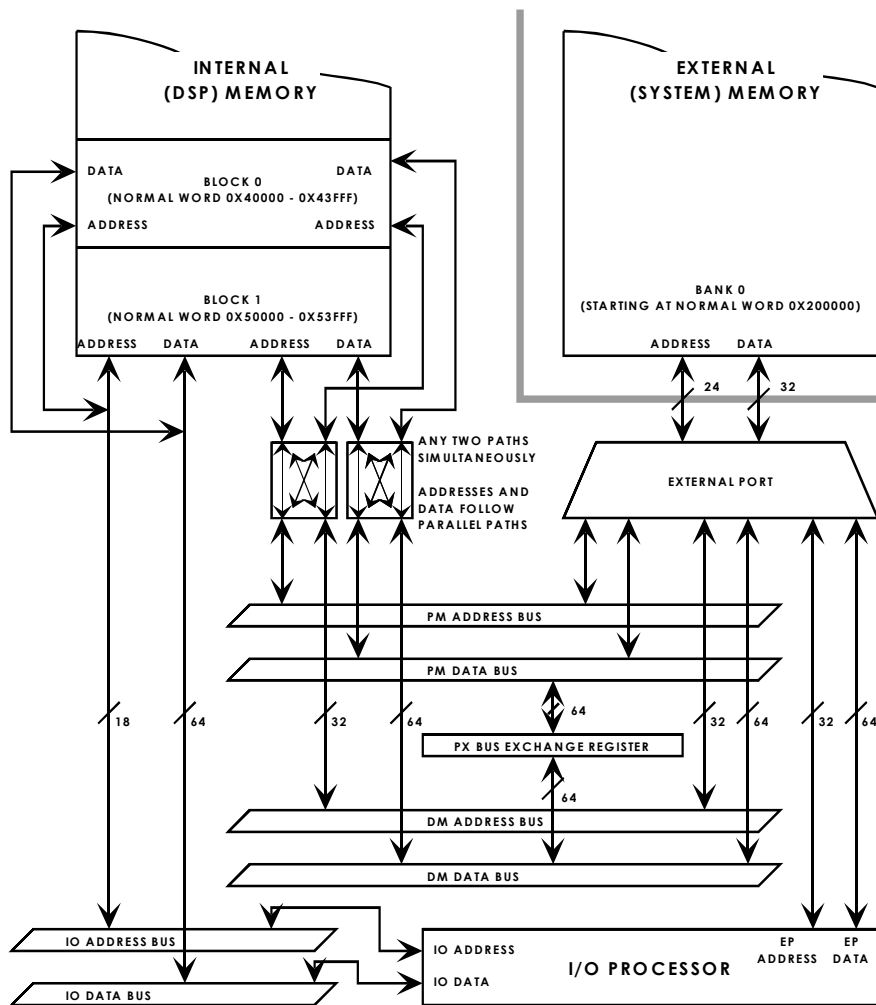
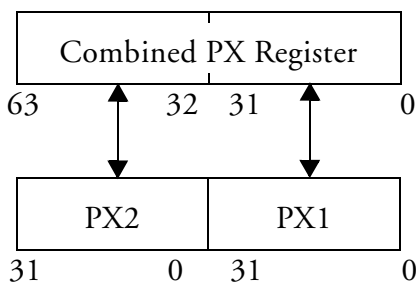

Figure 5-1. ADSP-21161 Memory & Internal Buses Block Diagram
Figure 5-2. PM Bus Exchange (PX, PX1, & PX2) Registers
As shown in Figure 5-1, the DSP has three sets of internal buses connected to its dual-ported memory, the Program Memory (PM) bus, Data
Figure 5-1 shows that the PM buses, DM buses, and I/O processor have access to the external bus (pins `DATA47-16`, `ADDR23-0`) through the DSP's external port. The external port provides access to system (off-DSP) memory and peripherals. This port also lets the DSP access the IOP register space of other DSPs when connected in a multiprocessing system.
The data buses let programs transfer the contents of any register in the DSP to any other register or to any internal memory location in a single cycle. As shown in Figure 5-1 on page 5-8, the PM Bus Exchange (PX) register permits data to flow between the PM and DM data buses. The PX register can work as one 64-bit register or as two 32-bit registers (PX1 and PX2). The alignment of PX1 and PX2 within PX appears in Figure 5-2.